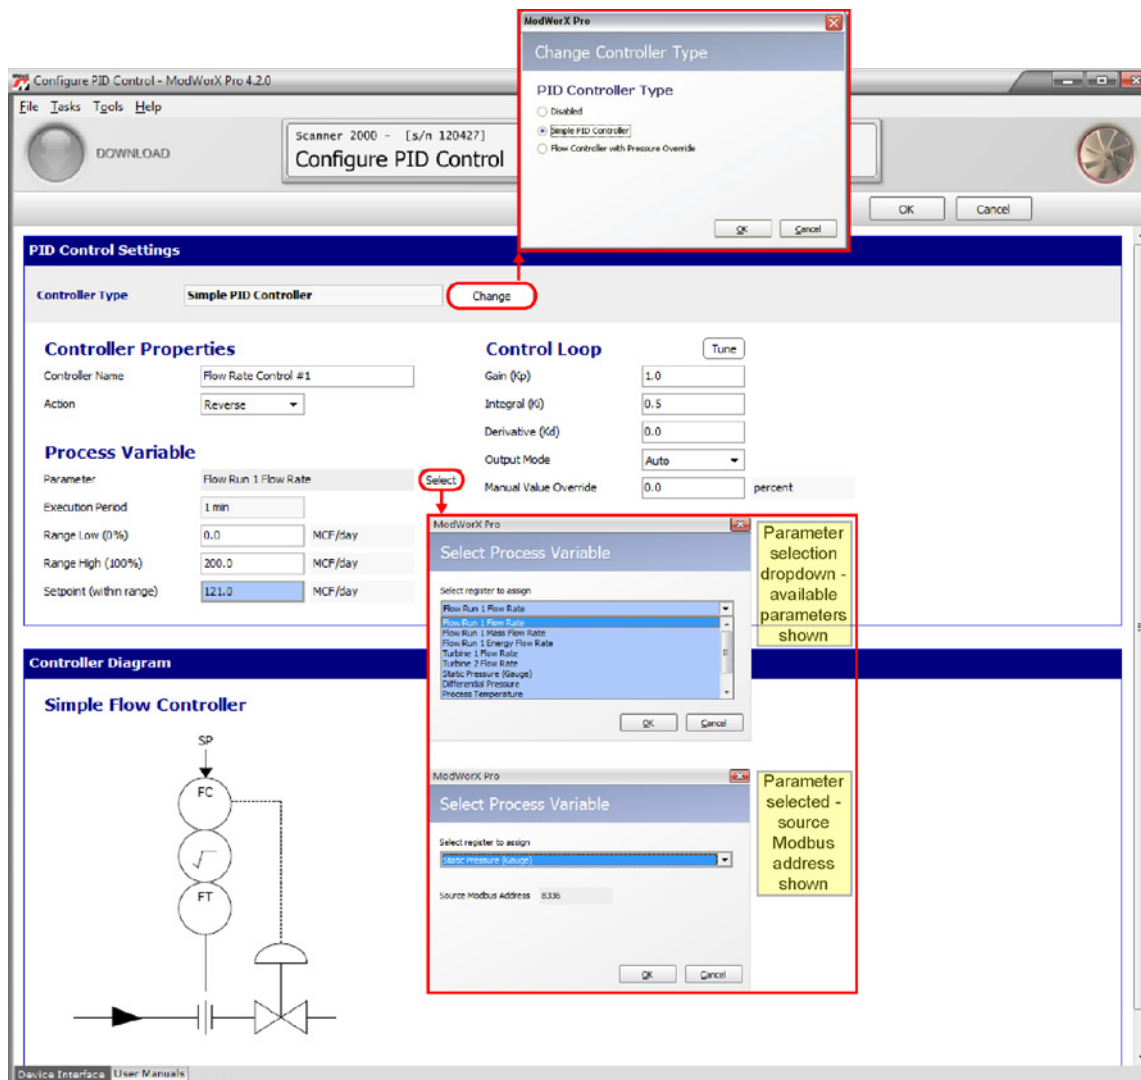

Figure B.5
1. From the Scanner 2000 Configuration Menu, click the **PID Control** button to access the Configure PID Control screen (Figure B.5).
5. Enter the Range Low and Range High values for the process variable being controlled in the fields provided. In Figure B.5, the range is 0 to 200 Lit/hour.
**Note** The Proportional Constant ( $K_p$ ) is referred to as “Gain” in the ModWorX Pro software interface. Gain is fundamental to the PID controller, because it is used to determine the controller output value. For example, assume a gain value of 1.0 (actual gain values will be much smaller due to normalization of the process variable operating range), a setpoint of 50%, and a process variable reading of 60%. To determine the output value, the controller multiplies the error (the process variable reading minus the setpoint, so 10 in this case) by the gain factor (1), the calculated output value would be  $10 \times 1$ , or 10 (percent of output change). The direction of the change (increase or decrease) in the output is determined by the action set in Step 3.
1. From the Scanner 2000 Configuration Menu, click the **PID Control** button to access the Configure PID Control screen (Figure B.5, page B-5).